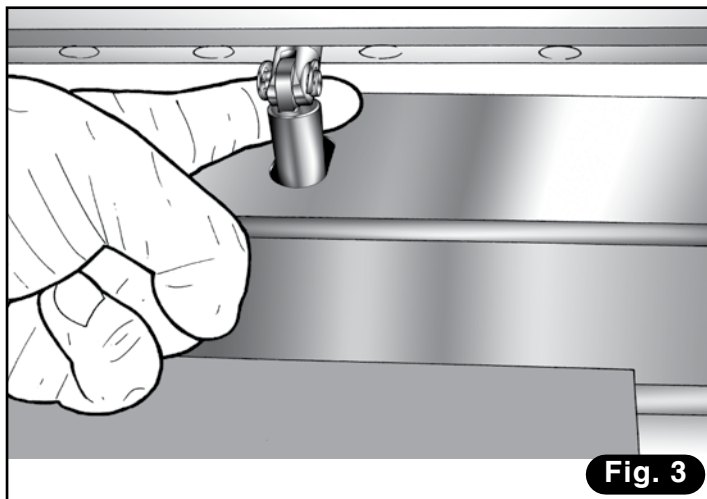

Fig. 3
- 2) Remove the elastic ring from the piston attachment pin (Fig. 3).